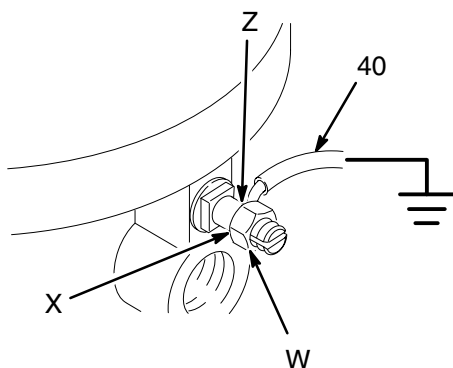

Fig. 3
1. *Pump*: use the ground wire and clamp (40, supplied). See Fig. 3. Loosen the grounding lug locknut (W) and washer (X). Insert one end of the ground wire (40) into the slot in lug (Z) and tighten the locknut securely. Connect the ground clamp to a true earth ground.